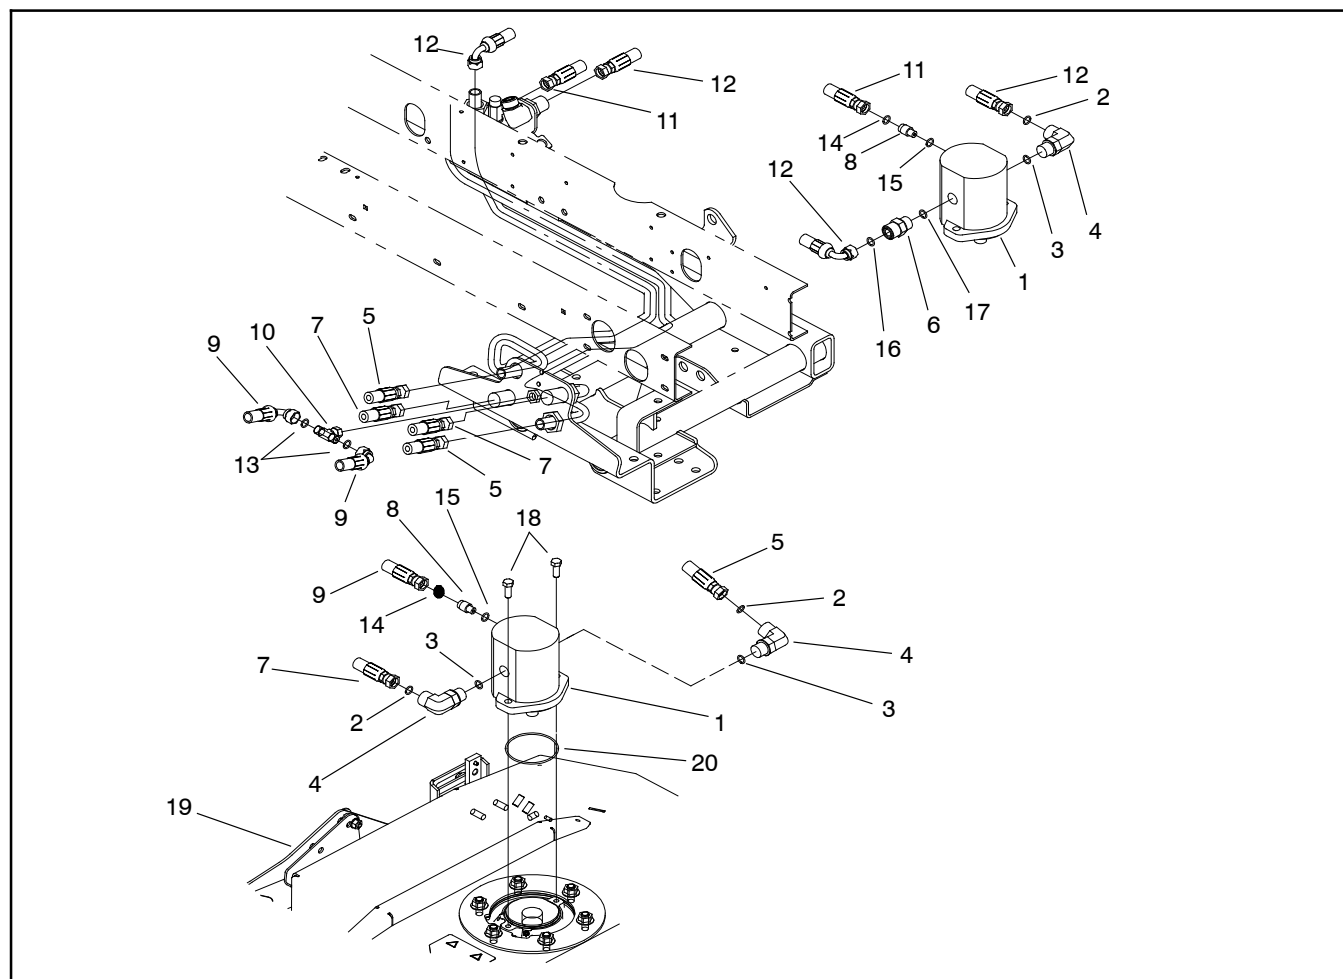

Figure 84
### Removal (Fig. 84)
2. Remove hydraulic hoses from rotary motors using Figure 84 as a guide.
### Installation (Fig. 84)
3. Install hydraulic hoses to rotary motors using Figure 84 as a guide.